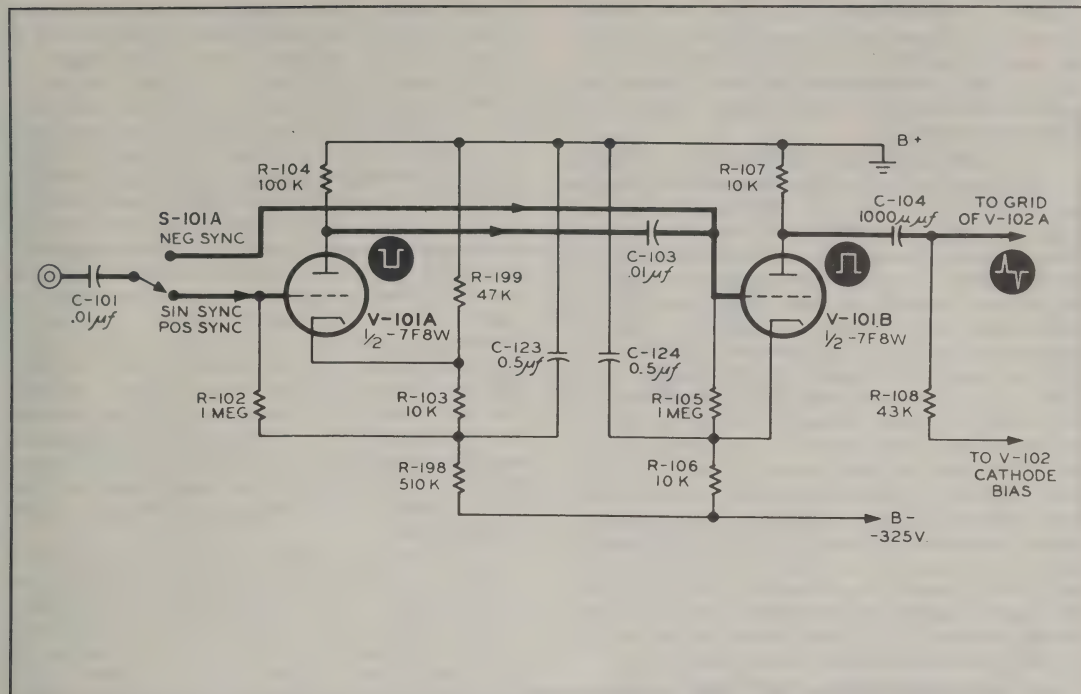

Figure 3-5. Signal Generator TS-419/U, Input Amplifier, Simplified Schematic Diagram
(5) The negative pip occurring at time T is then applied to and triggers the signal width multivibrator, V-106 and V-107, which generates a large positive pulse that is adjustable in duration over a range from 0.5 to 10 microseconds. This positive pulse is applied to the grid of the beam power tube V-108 resulting in a strong negative pulse in the primary of pulse transformer T-101. The stepped-up positive pulse from the secondary of the transformer is limited at a pre-determined level by the clipper V-110 and then applied to the focusing grid of the reflex klystron V-111, allowing oscillation for the duration of the pulse.
b. INPUT AMPLIFIER.—The input amplifier (figure 3-5) is used only when the modulator is to be synchronized to an external source of sine waves or pulses.